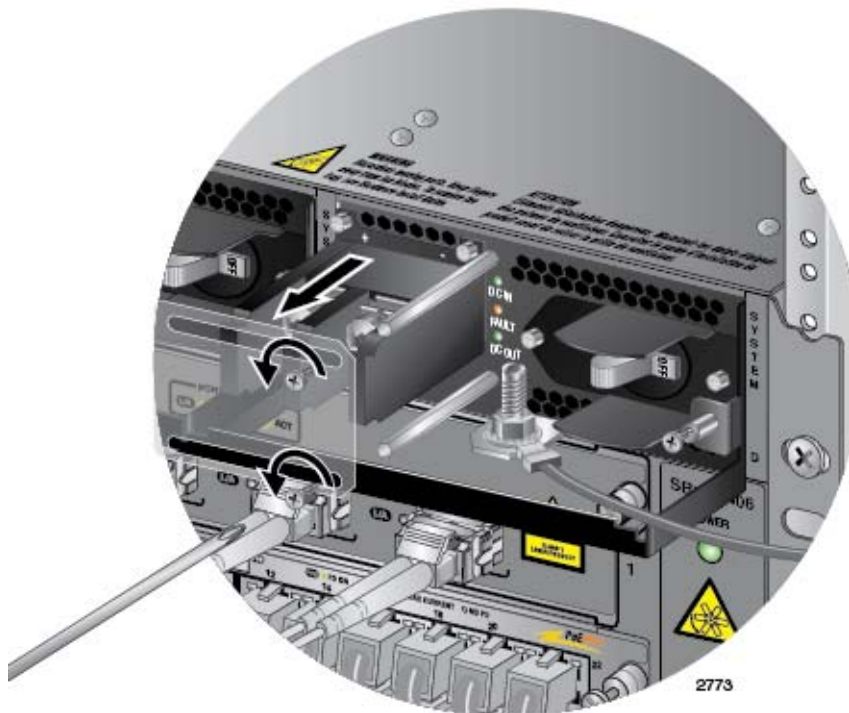

Figure 133. Removing the Plastic Cover
- Using a #1 Phillips-head screwdriver, remove the two screws that secure the plastic cover over the positive and negative terminals and remove the plastic cover from the power supply, as shown in Figure 133. You may need to lift the locking handle slightly to access the bottom screw.